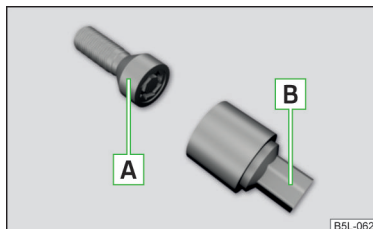

Fig. 329
The anti-theft wheel bolts protect the wheels from theft. The upper section **B** » Fig. 329 must be used to **loosen/tighten** these.
- › Push the wheel wrench onto the wheel bolt to the stop. Use the associated upper section for the anti-theft wheel bolts » Fig. 329 on page 287.